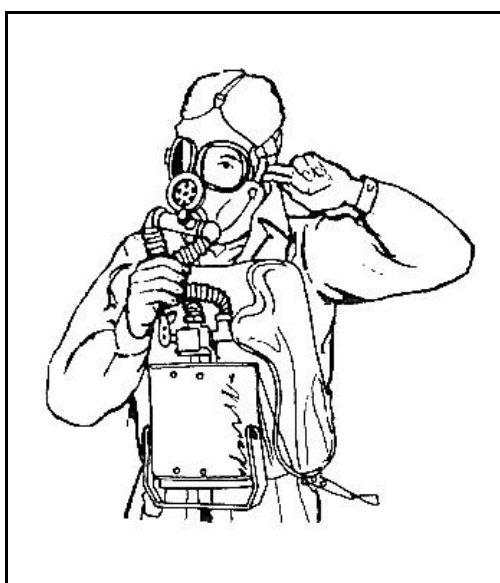

Figure 11-47. Putting on the OBA, Steps 10 and 11
- **Step 10.** Start a manual-start canister in a safe, uncontaminated area by inserting one or two fingers under the facepiece and stretching it away from your face (Figure 11-47, page 11-60). With the other hand, grasp the inhalation and exhalation tubes and squeeze them tightly; then inhale. Now release the tubes, remove your fingers from under the mask, and exhale. Repeat this procedure several times to inflate the breathing bag. This will start the chemical action in the canister. Do not overinflate the breathing bag! It should be firm, but not rock hard.
- **Step 11.** Test the facepiece for leakage by squeezing the inhalation and exhalation tubes while inhaling (Figure 11-47, page 11-60). If the facepiece is properly fitted, it will collapse against your face.